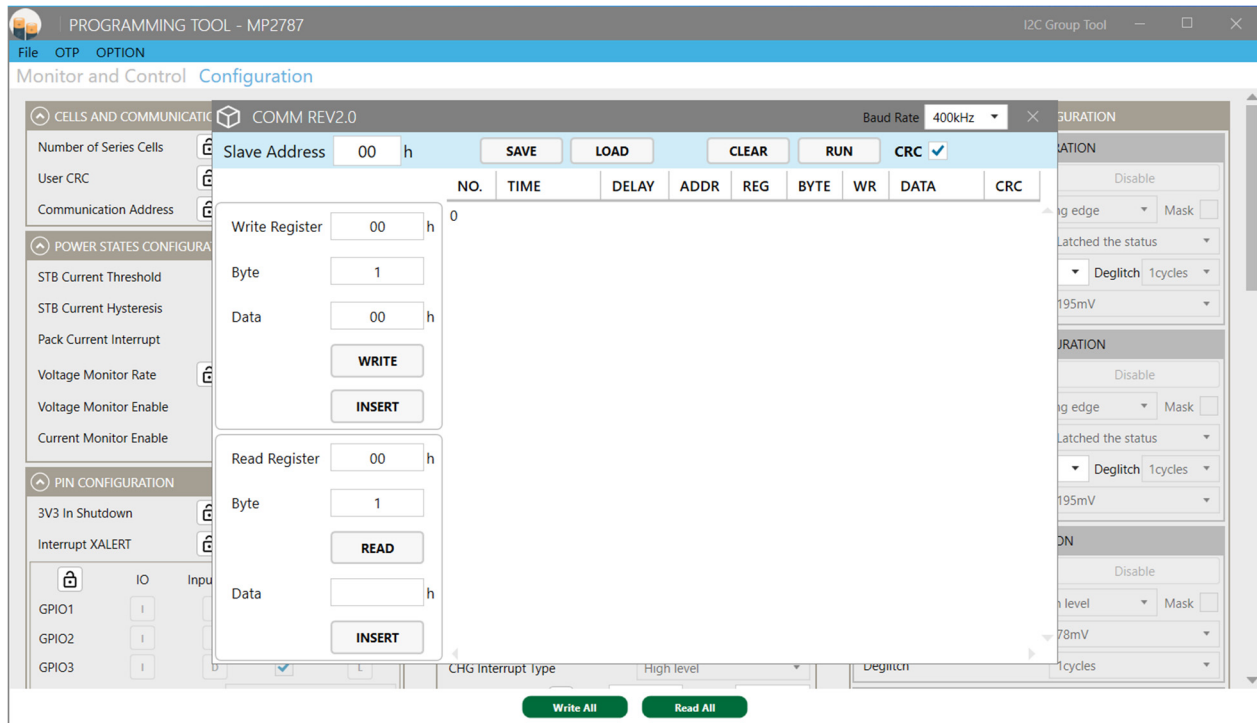

Figure 17: Group Tool to Configure a Single Register
- Click “I2C Group Tool” (for the -0000 configuration code) or “SPI Group Tool” (for the -0002 configuration code) at the top right of the GUI window to configure a single register in the “COMM REV2.0” window that pops up (See Figure 17).